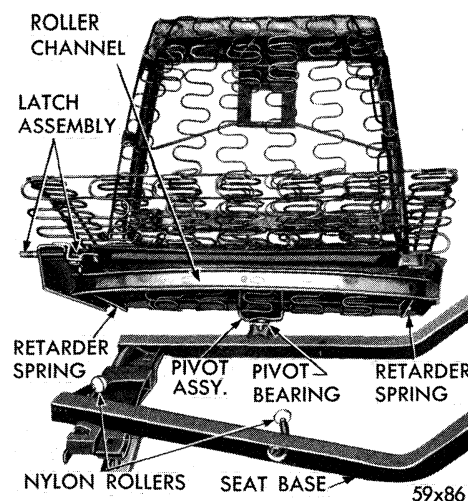

Fig. 122 — Removing Swivel Seat Assembly
**SEAT ASSEMBLY (FIG. 122)****a. Removal**
#### NYLON ROLLERS (FIG. 122)
#### PIVOT NYLON BEARING REPLACEMENT (FIG. 122)
Remove the pivot seat assembly and invert seat. Remove the screws, Figure 122, holding the retarder springs in place. The screws are located on the bottom of the seat frame and under the seat back hinges. Remove the retarder springs.